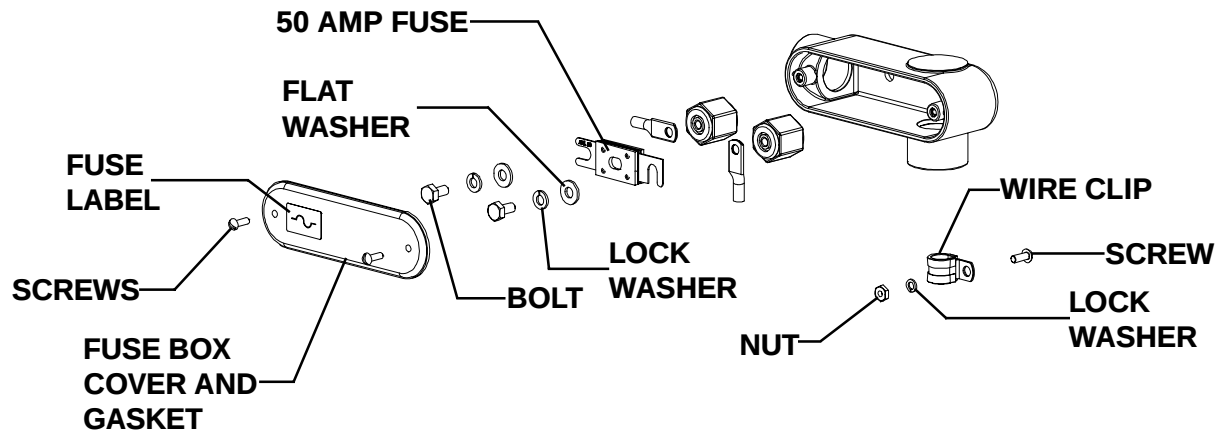

Figure 1-9
Step 17. Install the 50 Amp fuse on top of the battery lugs with the hardware provided. (Refer to Figure 1-9).
Step 18. Install the fuse box lid and stick the fuse label on the lid as shown (Refer to Figure 1-9).
Step 19. Install the wire clip below the fuse box around the two red 10 Ga. Battery Charger wires with the hardware provided (Refer to Figure 1-9).